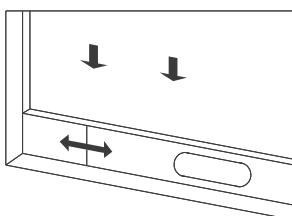
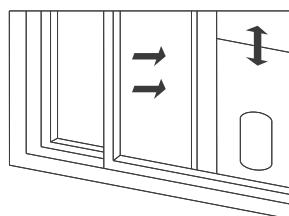

Figure 2
Figure 3
- 1) Half open the window and mount the window sealing plate assembly to the window (as shown in Fig. 2 and Fig. 3).